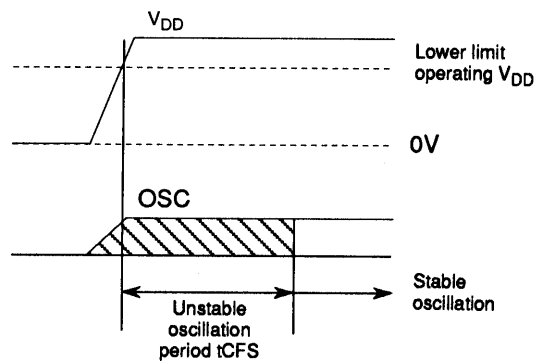

Fig. 4 Oscillator Stabilization Period
- Note: 1. The LC65E1104 will accept input voltages up to the generated oscillator amplitude if the oscillator circuit in figure 4 with circuit constants in the guaranteed constants ranges is driven from within the IC.